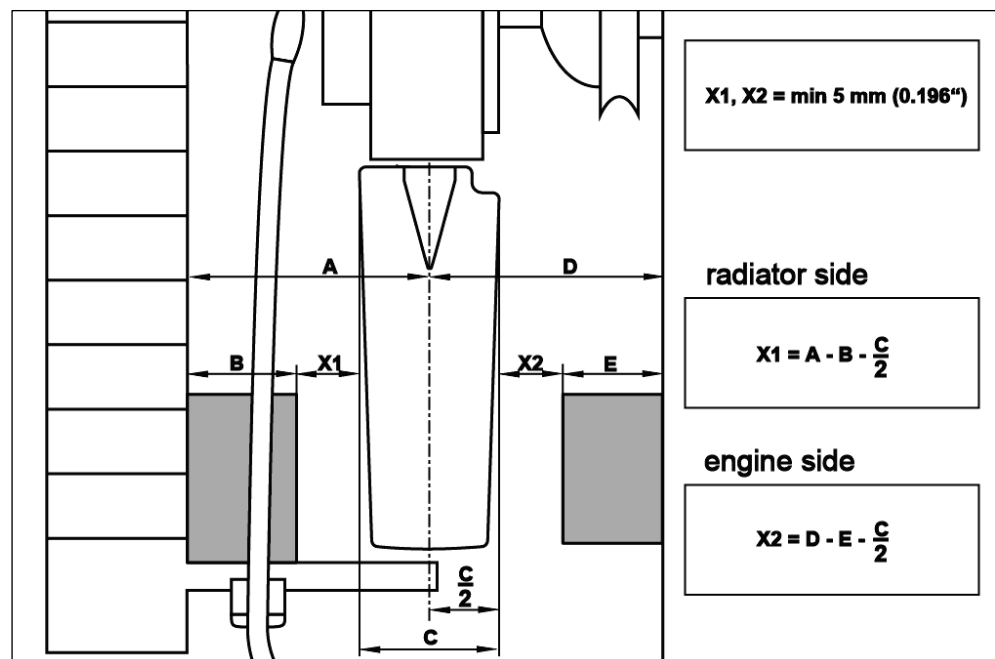

Fig. 39
33) Measure whether any objects are in the way (see Fig. 39).